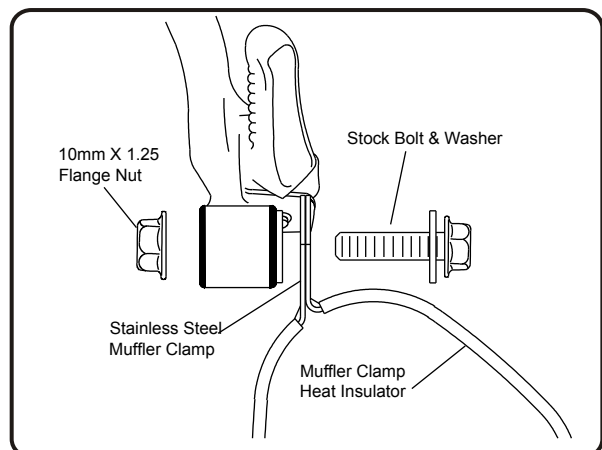

Fig. 3
(Note direction of clamp in Fig. 3)
- 5 Mount clamp to stock muffler bracket using stock bolt and washer with supplied nut. (See Fig. 3)